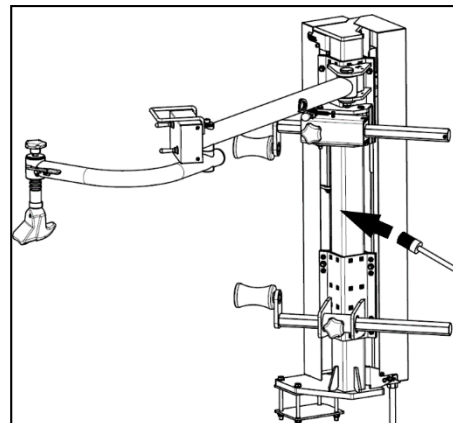

FIG24
- Use the diesel oil to clean the guide rail of assist arm and use the Lithium grease to lubricate. (Fig24).